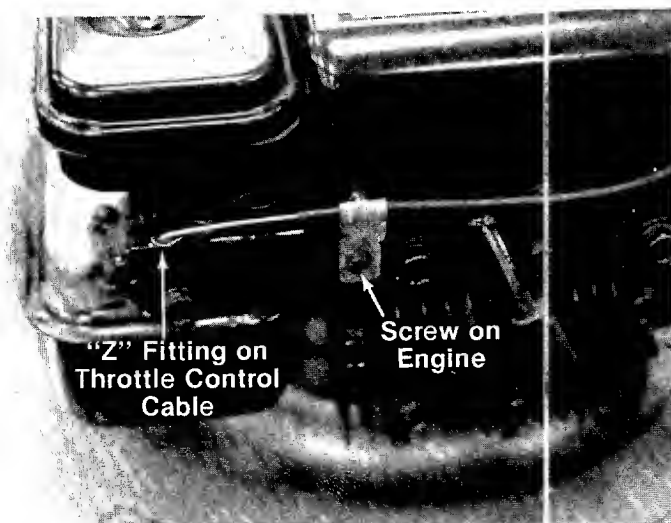

FIGURE 18.
8. Disconnect the throttle control cable from the engine by loosening screw on engine and disconnecting the "Z" fitting. See figure 18.